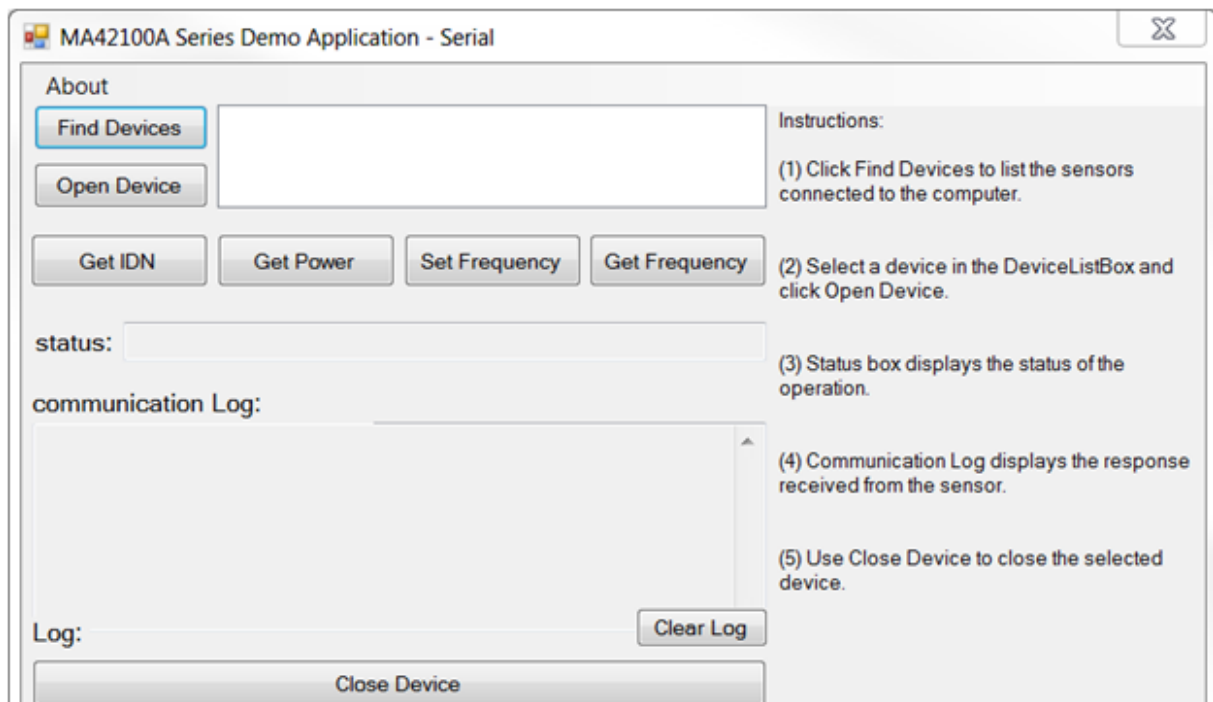

Figure A-1. Demo Application
1. User must close all applications which communicate with power sensors prior to running the Demo Application. The driver and demo app folder on anritsu.com provides the Overview, Getting Started Instructions and Sample Code to launch the Demo Application. Double click on **DemoApp.exe**. The application screen shown in Figure A-1 will appear.